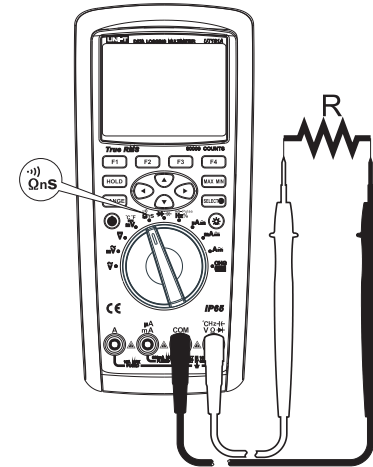

Figure 8
- 2) Set the rotary switch to the measurement  $\Omega$  nS  $\rightarrow$ ), and current  $\Omega$  is the default resistance measurement as shown in Figure 8. Connect the test leads to both ends of the measured resistance.
- 2) Set the rotary switch to the measurement  $\Omega_{ns}$  . press the key SELECT to select conductance measurement 60nS. Connect the test leads to both ends of the measured resistance as shown in Figure 8.
- 2) Set the rotary switch to the measurement  $\Omega$  (ns  $\rightarrow$ ), press the key SELECT to select the continuity test  $\rightarrow$ . Connect the test leads to both ends of the measured resistance as shown in Figure 8. Press the function key MENU (Menu) to enter the menu items. If pressing the key SHORT (Menu), then the buzzer selects